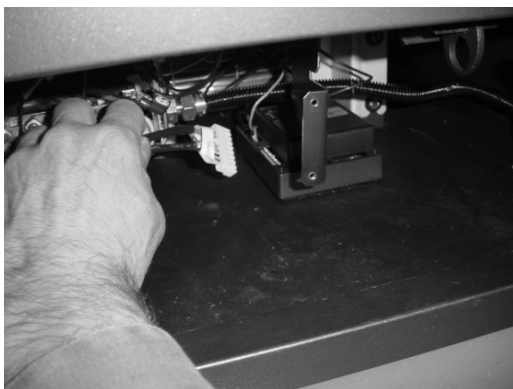
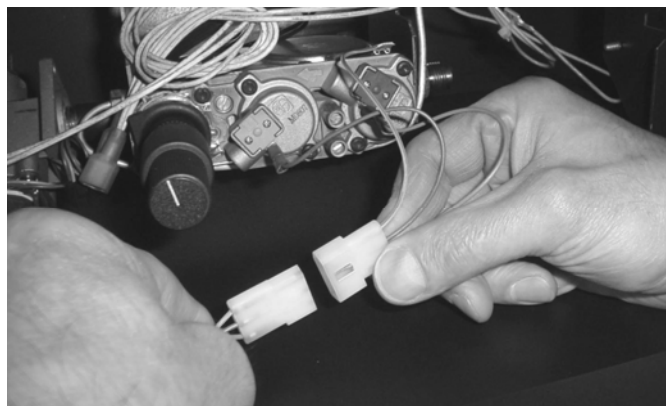

Figure 17
Figure 18
- 12 Attach the wiring harness to the burner control (see Figure 17). Attach the gas control valve molex connector (see Figure 18).